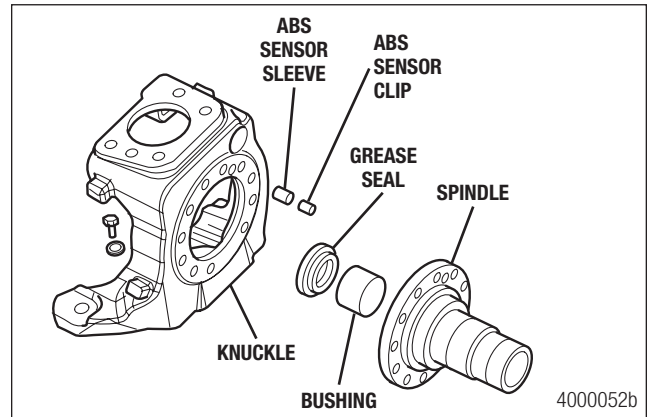

Figure 7.16
2. Install the ABS sensor clip into the sleeve. Figure 7.16.